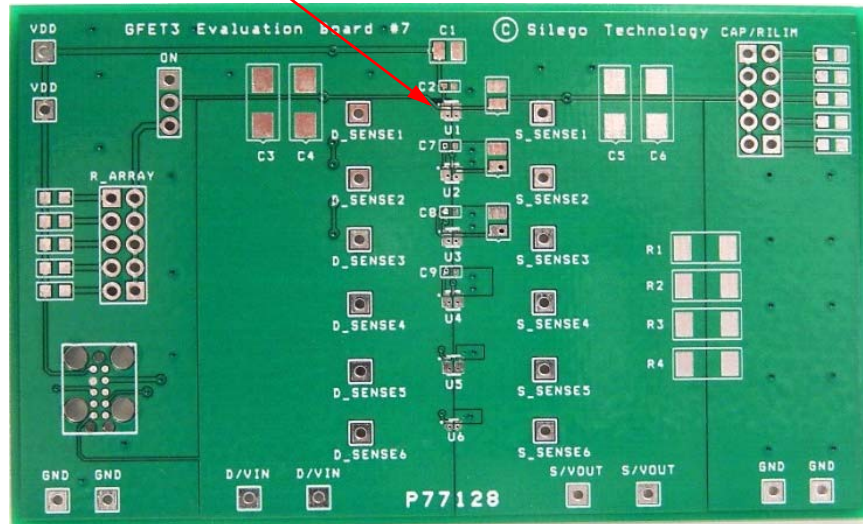

Figure 1. SLG59M1448V Evaluation Board.
2. Since the D and S pins dissipate most of the heat generated during high-load current operation, it is highly recommended to make power traces as short, direct, and wide as possible. A good practice is to make power traces with absolute minimum widths of 15 mils (0.381 mm) per Ampere. A representative layout, shown in Figure 1, illustrates proper techniques for heat to transfer as efficiently as possible out of the device;
A GFET3 Evaluation Board for SLG59M1448V is designed according to the statements above and is illustrated on Figure 1. Please note that evaluation board has D\_Sense and S\_Sense pads. They cannot carry high currents and dedicated only for RDSON evaluation.